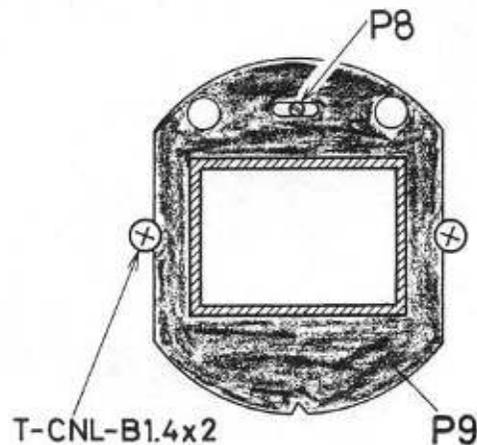

Fig. 36
- 32-5 Make sure the Flare prevention frame is installed as shown in Fig. 36.
3. Adjust the Flare prevention frame (P9) by turning the Adjusting shaft (P8) as shown in Fig. 36.
6. Make sure that the position of P9 is adjusted as shown in Fig. 36.